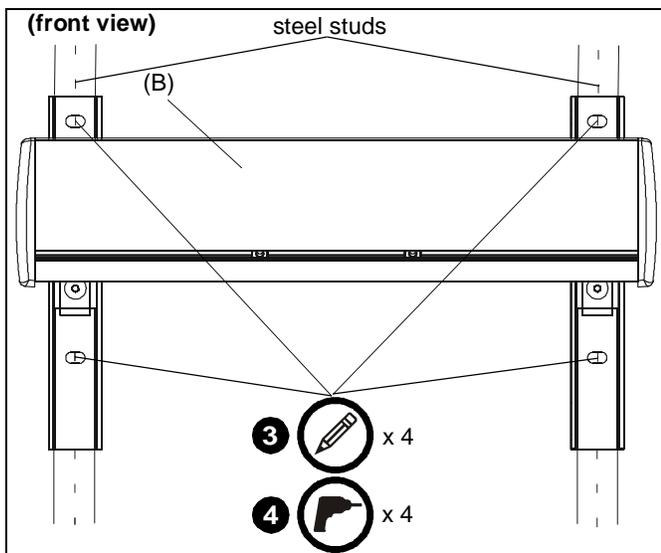

Figure 5
2. Line up four holes on wall bracket with center of studs at desired mounting location. (See Figure 5)
3. Using wall bracket as a template, mark four holes at the inner four holes in bracket. (See Figure 5)
4. Drill four 1/2" holes at marked locations in wall. (See Figure 5)